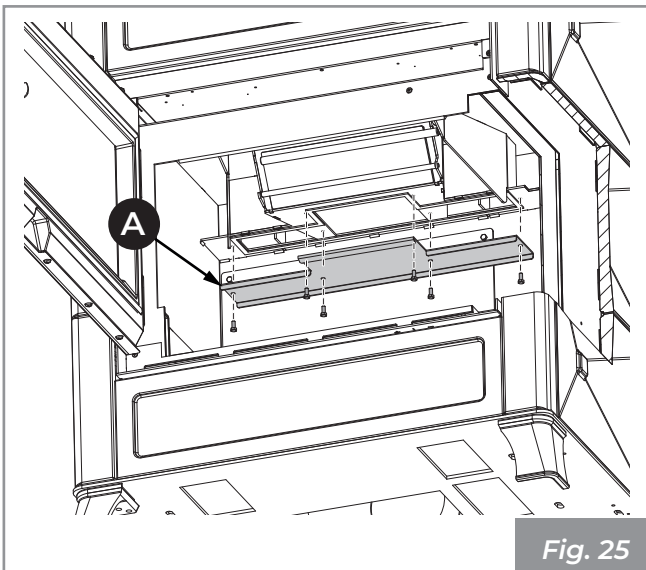

Fig. 25
Remove the flue manifold cap (A) (Fig. 25).